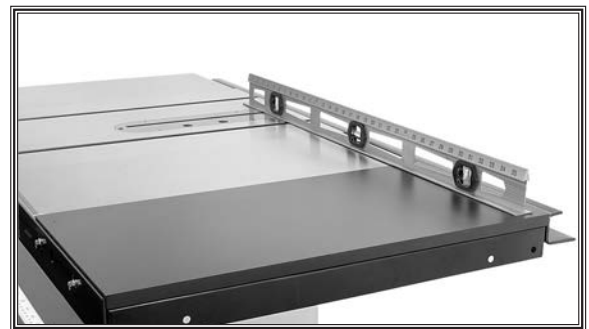

Figure 24. Adjusting Model W1819 extension table flush with wing and table.
2. Using a long straightedge, adjust the extension table so it is flat (both flush and parallel) with the main table and extension wings (see **Figure 24**), then tighten the fasteners.
5. Adjust the extension table so it is flat (both flush and parallel) with the main table, using a long straightedge (similar to the method shown in **Figure 24**). This can be done by loosening the mounting bolts and adjusting the feet up/down as needed.